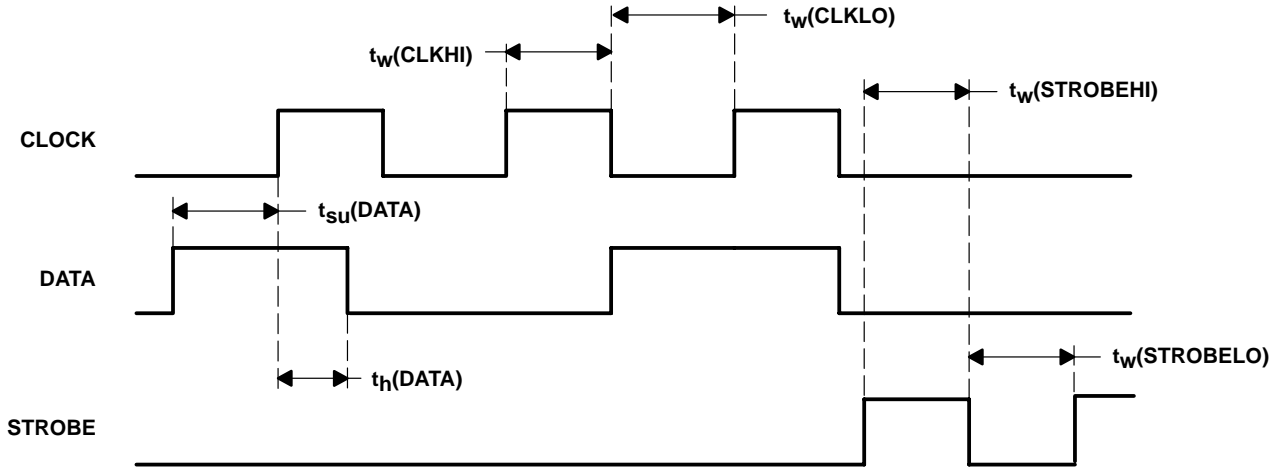

Figure 2. Serial Data Interface Timing
**timing data for serial interface (see Figure 2)**